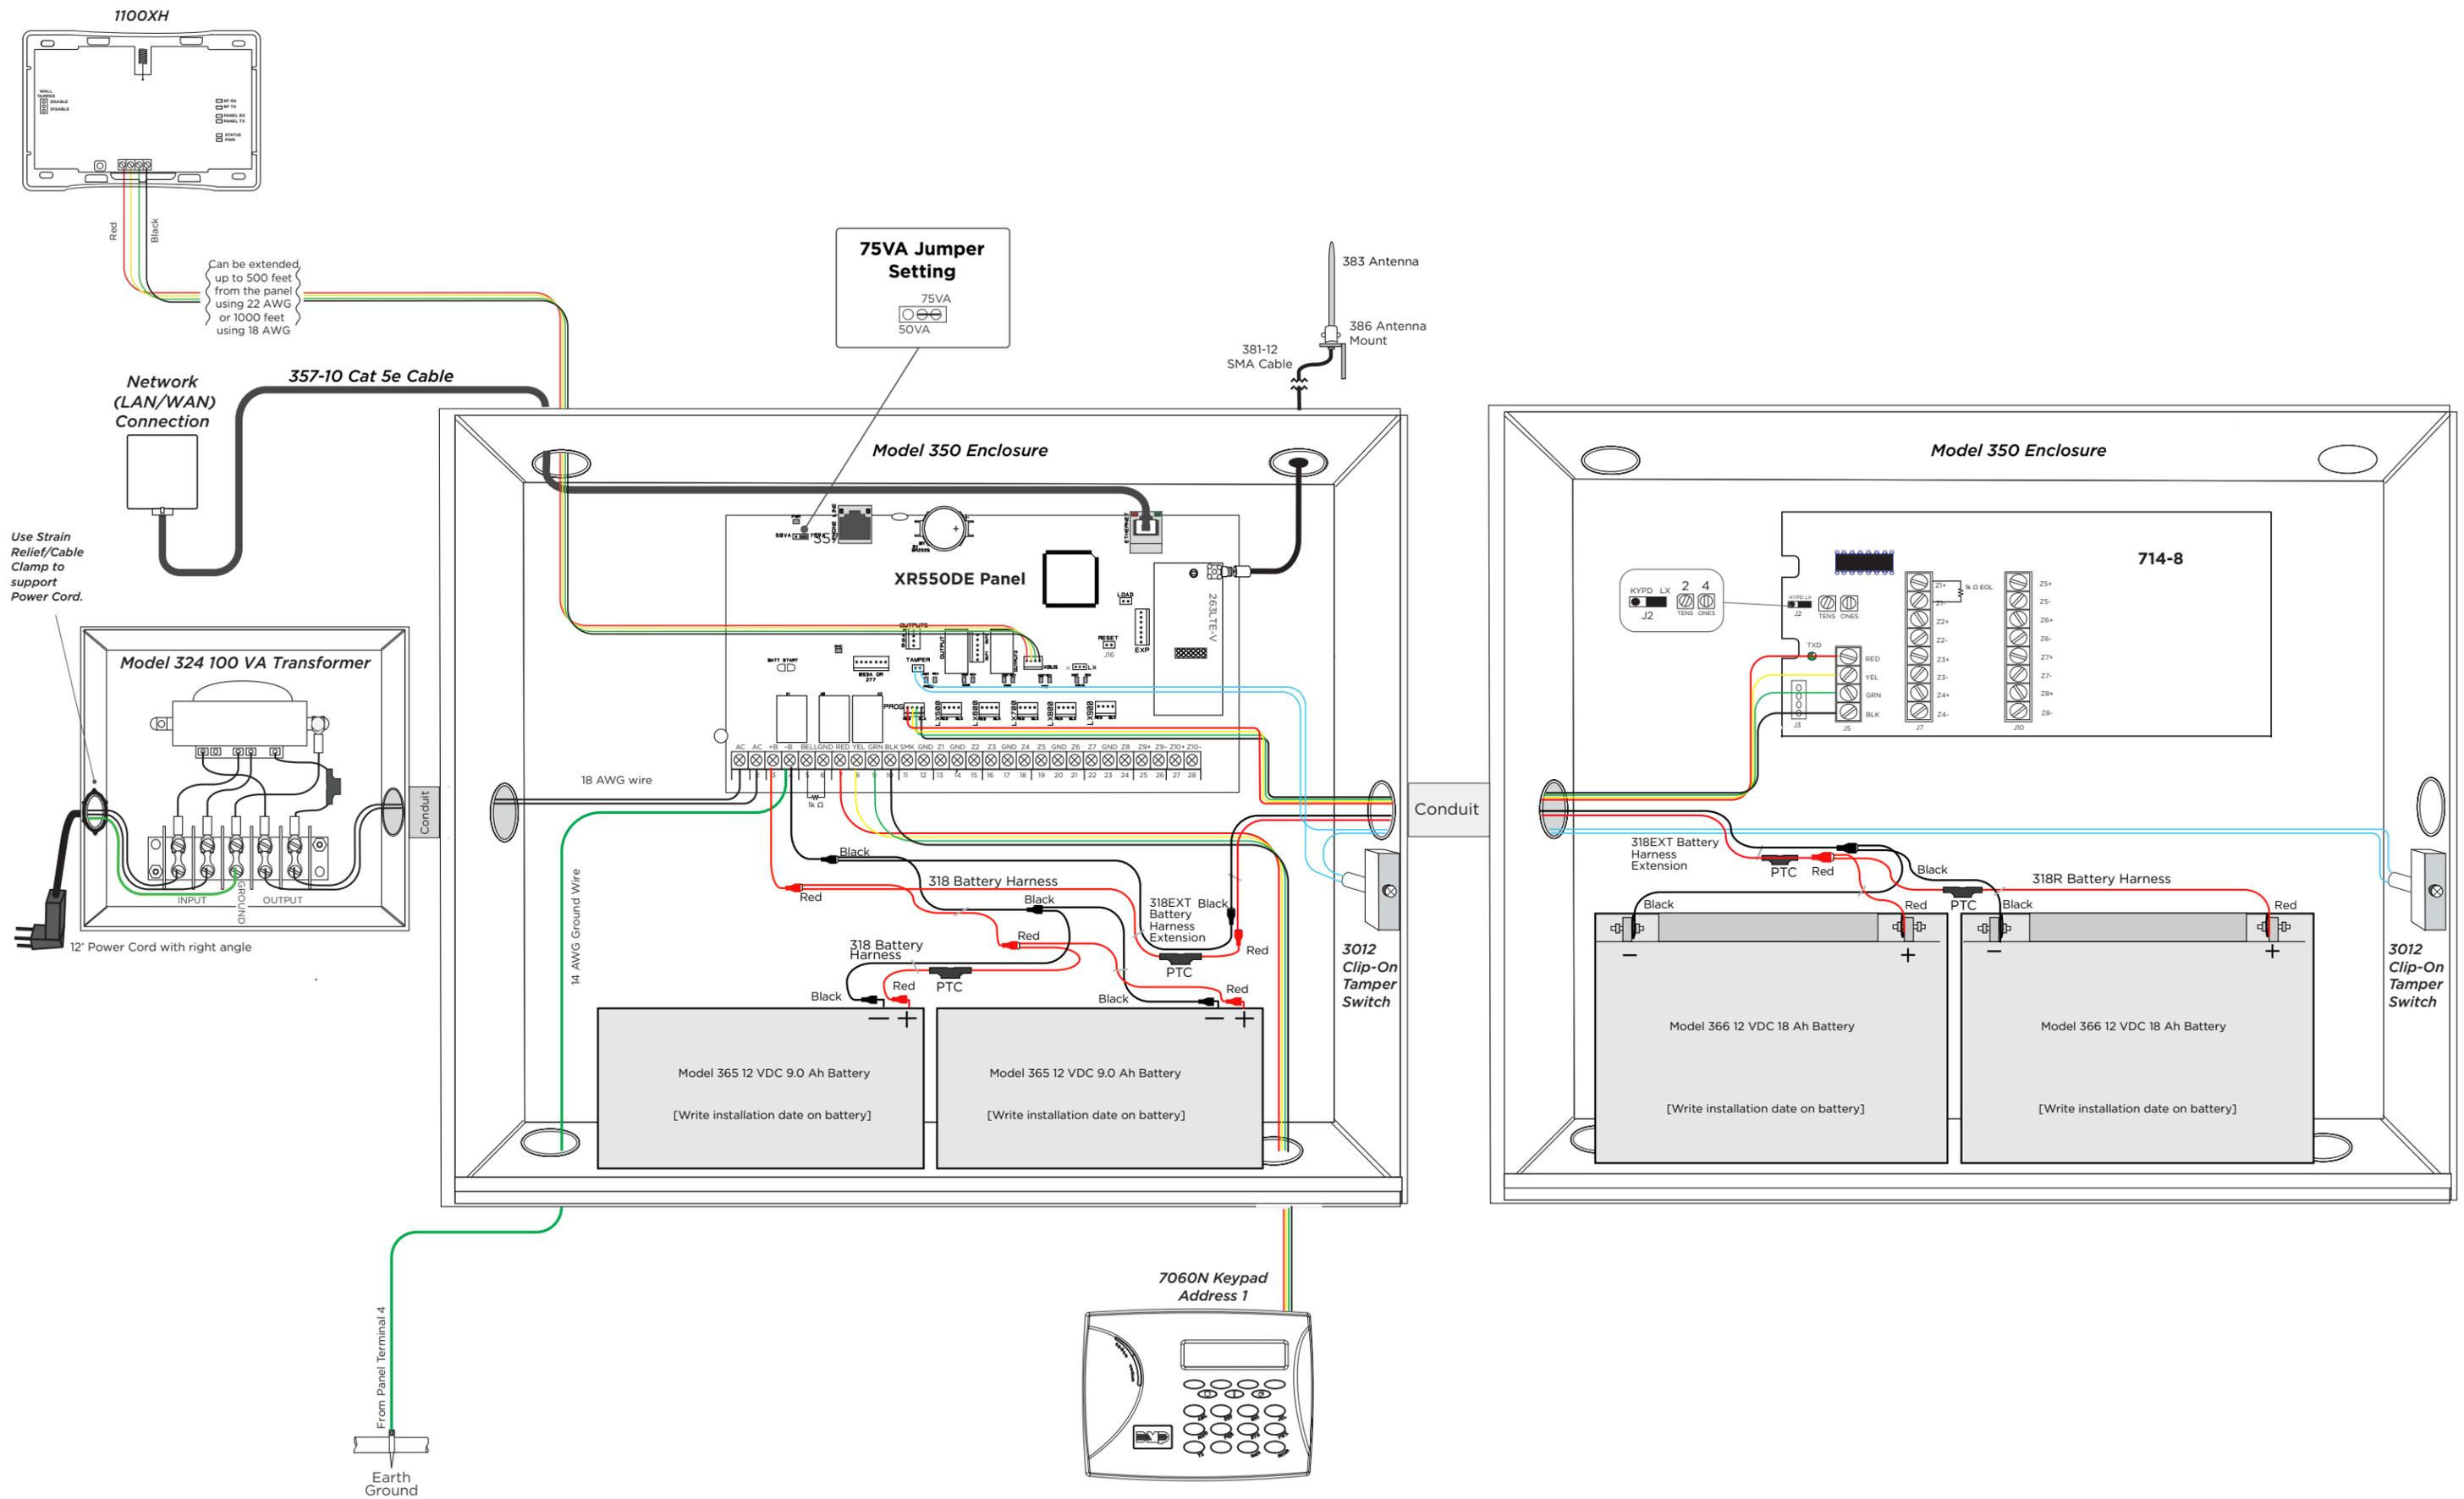

Figure 2: Wiring Diagram
2. Connect the 714-8 to the XR550 LX500 header. For additional information, refer to Figure 2.